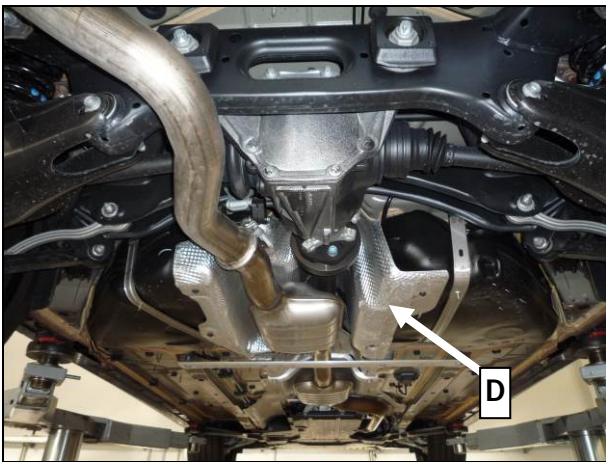

Figure 5
8. Unfasten heat shields (D, E, F, G and H, Figure 5 – 7).
Figure 5 and 6 shown on model 238!